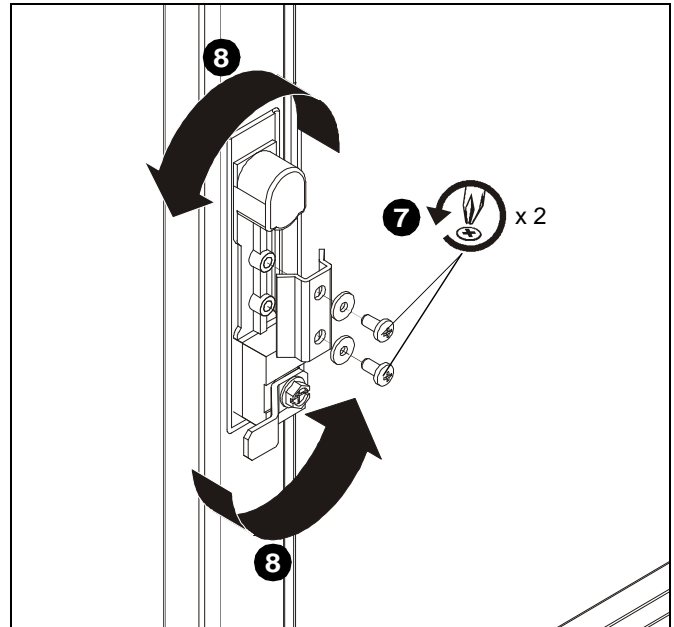

Figure 29
7. Remove screws, washers and bracket from door handle. (See Figure 29)
8. Flip the door handle. (See Figure 29)